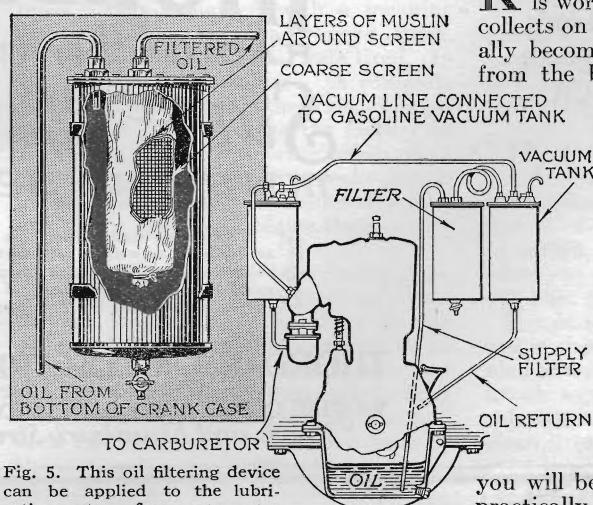

Fig. 5. This oil filtering device can be applied to the lubrication system of any auto motor
E. E. LINDSAY, of Champaign, Ill., wins this month's \$10 prize with his suggestion of an oil filter (Fig. 5). Each month POPULAR SCIENCE MONTHLY awards \$10, in addition to regular space rates, for the best idea sent in for motorists. Other contributions published are paid for at the usual rates.
FIG. 5 shows a homemade oil filtering system that can be applied to any automobile to make it modern and up-to-date.